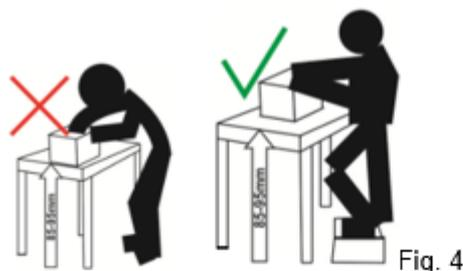

Fig. 4
- Never put yourself in a position where your face is exposed to burns caused by hot water vapours from the container. Use the correct posture (Fig. 4) when immersing and removing the eggs baskets from the container,
- Place it on a stable, flat and rigid surface. For optimum user comfort, the appliance must be placed between 85 and 95 cm from the ground (Fig. 4)